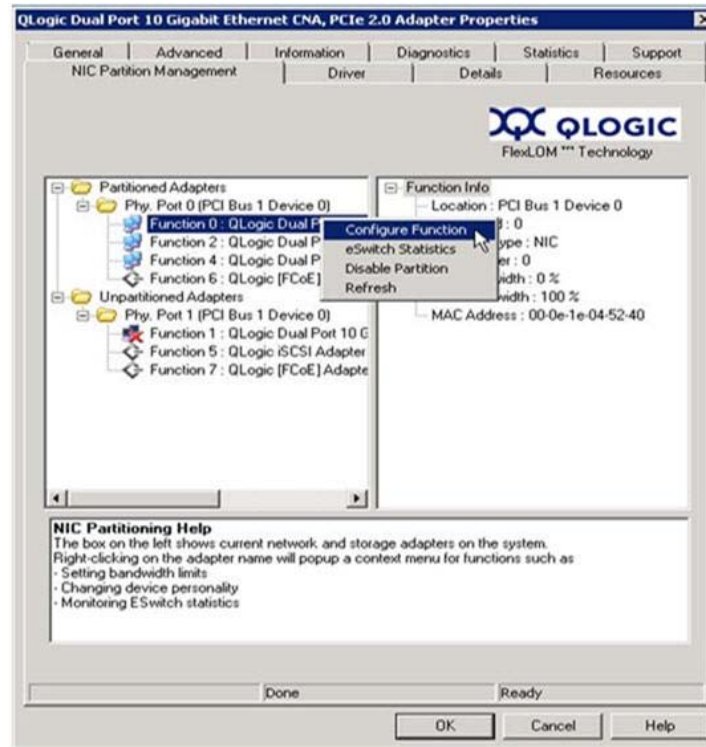

Figure 45: Selecting Configure Function for Function 0
2. Right-click the function number for the port you want to configure and select **Configure Function** from the context menu (Figure 45).